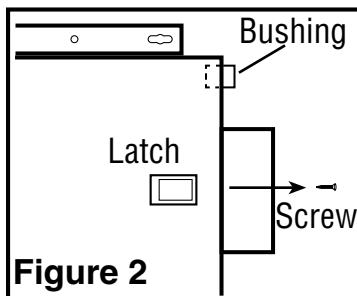

Figure 2
2. Remove the screw securing the access panel cover in place and open the cover by pulling back on the plastic latch (Figure 2).
3. Remove the plastic plug from the body of the main unit and install the included plastic bushing into the hole (Figure 2).